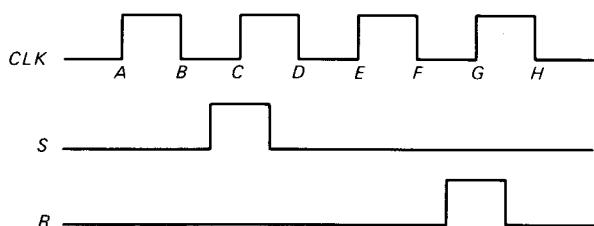

Fig. 7-17
- 7-1.** The waveforms of Fig. 7-17 drive a clocked *RS* latch (Fig. 7-5a). If *Q* is low before time *A*,